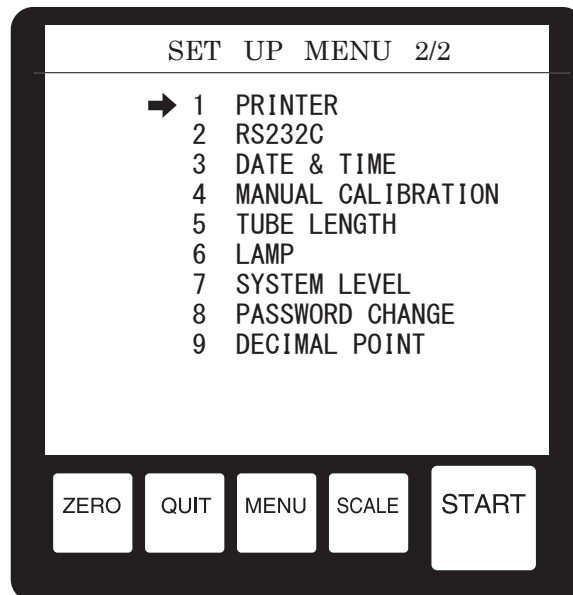

Fig.8-1
- b) The screen shown in Fig.8-1 will be displayed on the display panel. Press the ↓ or ↑ to move the arrow (→) on the screen to "3 DATE & TIME", then press the ← key (The same can be done by pressing the "3 GHI" key, and then the "←" key on the numeric keypad ("3" + "←"), without using ↓ or ↑).
- e) Press the ← key when you complete the settings (The last setting is minute). You will hear a beep and the display panel will return to the screen shown in Fig.8-1. Then press the QUIT key.